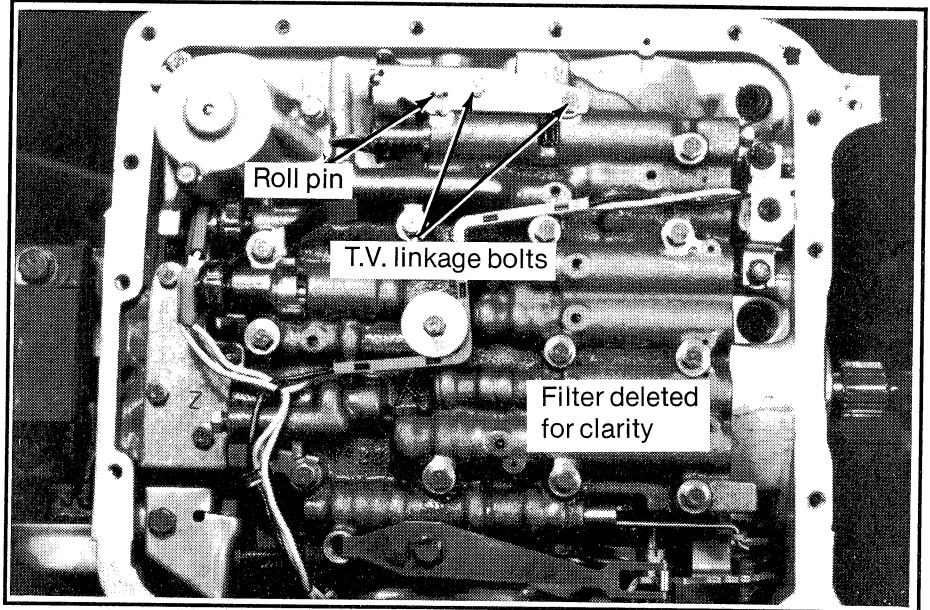

Figure 1
STEP 2. Remove the two bolts holding the T.V. cable linkage. See **Figure 1**. Lower the linkage out of the way. Do not bend or distort the T.V. link.